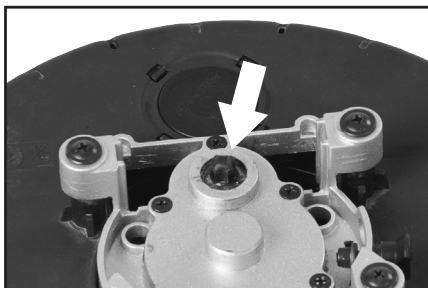
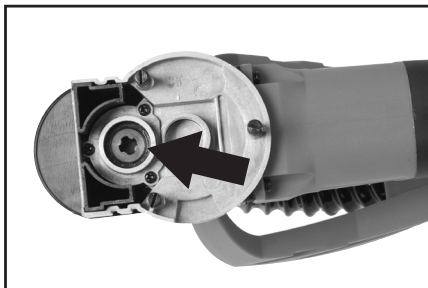

Fig. 11
Fig. 12
- The Sanding Head Drive Pin (**Fig. 11**) must locate and engage with the drive arbor from the motor. (**Fig. 12**)